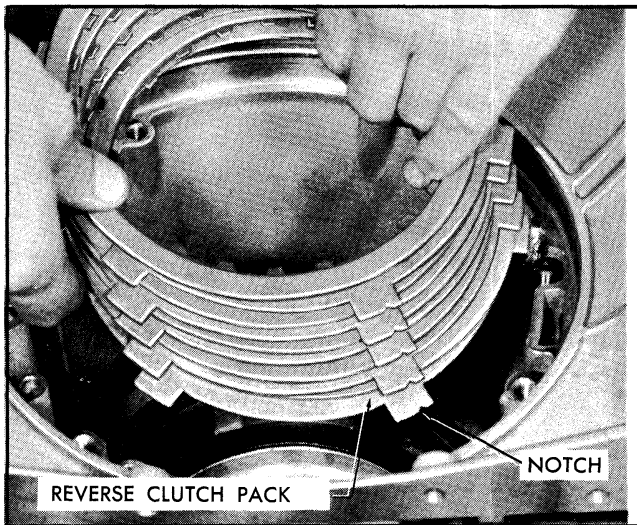

Fig. 7B-122 Installing Reverse Clutch Pack
5. Install reverse clutch cushion spring, reaction plates, and drive plates as shown in Fig. 7B-121. Notched lug in each steel reaction plate is installed so that it is at top of groove at 5 o'clock position in case (Fig. 7B-122).